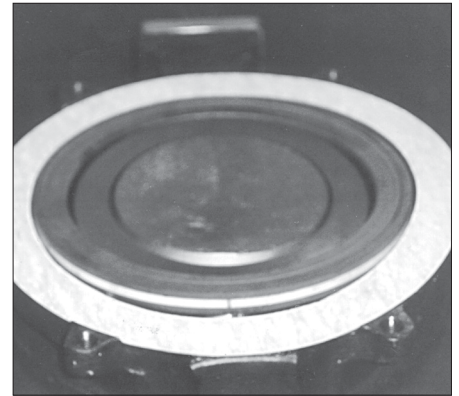

Figure 7 - Proper placement of seat retainer gasket.
- Check to make sure the disc (2) is in the closed position against the body (1) disc stop.
- Put the seat retainer gasket (22) on the valve body (1) gasket surface. (see Figure 7)
- For lug style bodies, align the seat retainer ring gasket (22) holes with the holes in the body (see Figure 7).
- Place the seat retainer ring (23) on top of the seat retainer gasket (22). For lug style valves, align the holes in the seat retainer ring (23) with the holes in the gasket (22) and the body (1).
- Place the locating plates (33) and/or clips (35) for wafer style valve body.
- Install and tighten the screws (34) for wafer valve and (24) for lug valve.